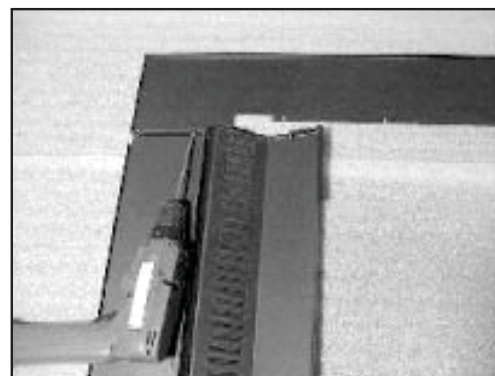

Figure 24.6
4. Align top panel to side panel setting clearance hole over screw head in side panel/curtain assembly. Install (2) 8-32 x 3/8 inch screws through holes in side panel into top panel. **Figure 24.6**. Complete for both sides.